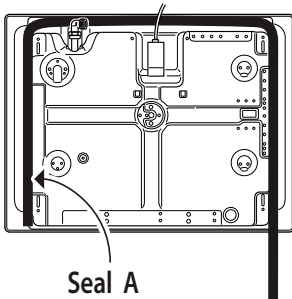

Fig. 3a
- 2 Spread the longer seal "A" around the left, rear and right sides (Fig. 3a).